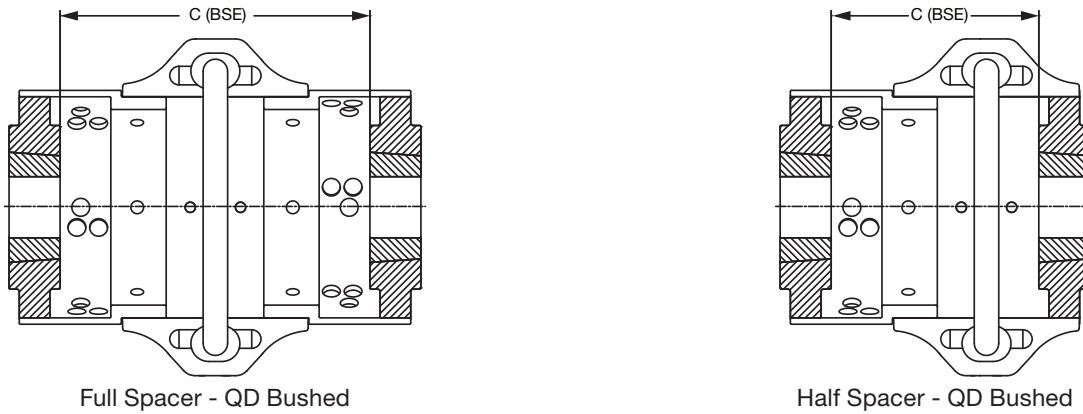

Figure 6 - Hub Orientation Options for Spacer - QD Bushed
1. Hubs may be oriented as seen in Figure 5 for Taper-Lock and Figure 6 for QD. Depending on shaft spacing requirements, determine the best hub orientation using Table 5 for Taper-Lock and Table 6 for QD.